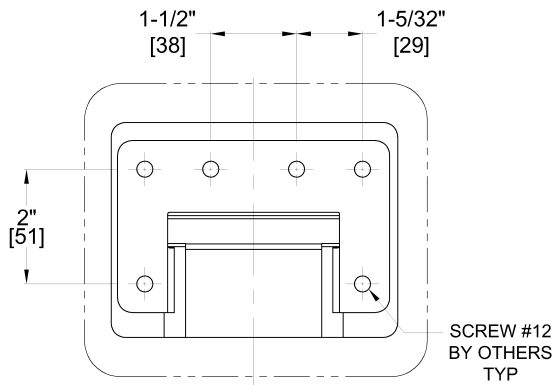
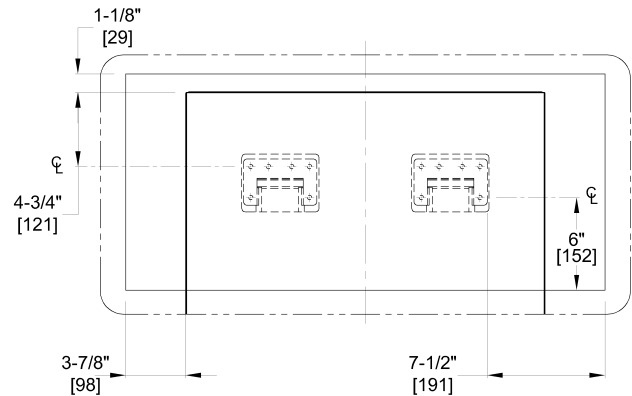
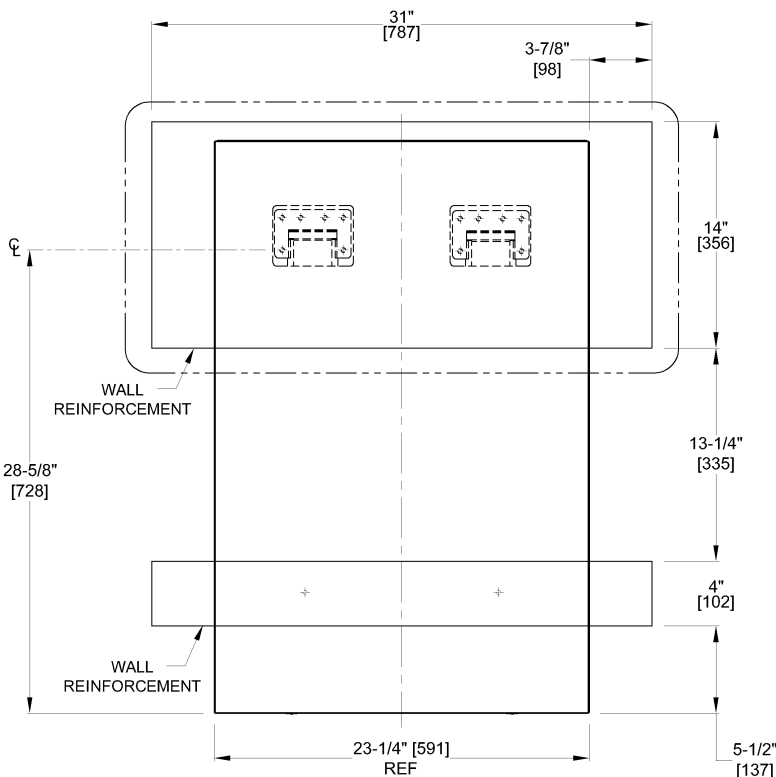
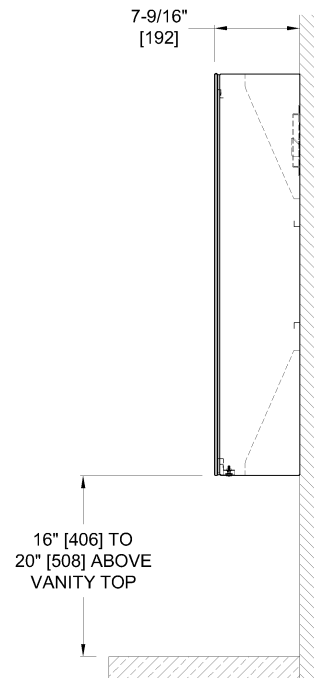

FIG. 1
FIG. 3
FIG. 2
FIG. 4
Install the two (2) mounting plates on wall using twelve (12) № 12 self-threading, pan-head screws (by others) ( Fig. 1) into appropriate anchoring and wall reinforcements (Fig. 2). Hang cabinet on wall mounting hanger hooks (Fig. 3). Suggested mounting height is to position bottom of module 16" [406] to 20" [508] above vanity top so bottom aligns with Model №'s 0661-X or 0663-X on either side of Filler Module (Fig. 4). Install two (2) №12 self-tapping locking screws (by others) into appropriate anchoring to prevent unit from being lifted off hanger hooks (Fig. 2).